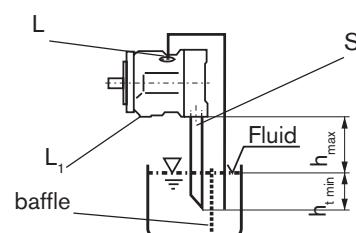

fig. 4
Pipe port "L" and "S" acc.to fig. 4 , port "L₁" closed. (compare limiting conditions)
a) When mounting above the reservoir: see fig. 4 (compare item limiting conditions)